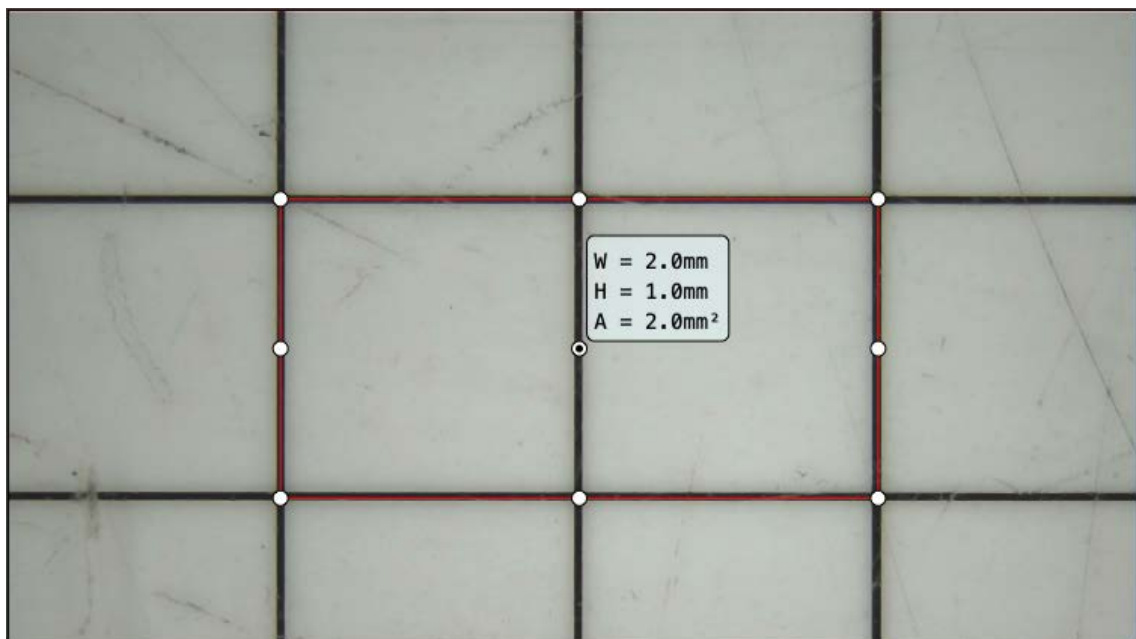

Figure 5-4 Example of rectangular measurement
- (2) Rectangle: This tool  can be used when the observation object is a quadrilateral. Using tools, in Figure 5-4, the width and height of the rectangle are  $W=2.00\text{mm}$ ,  $H=1.00\text{mm}$ , and the area is  $A=2.00\text{mm}^2$ .